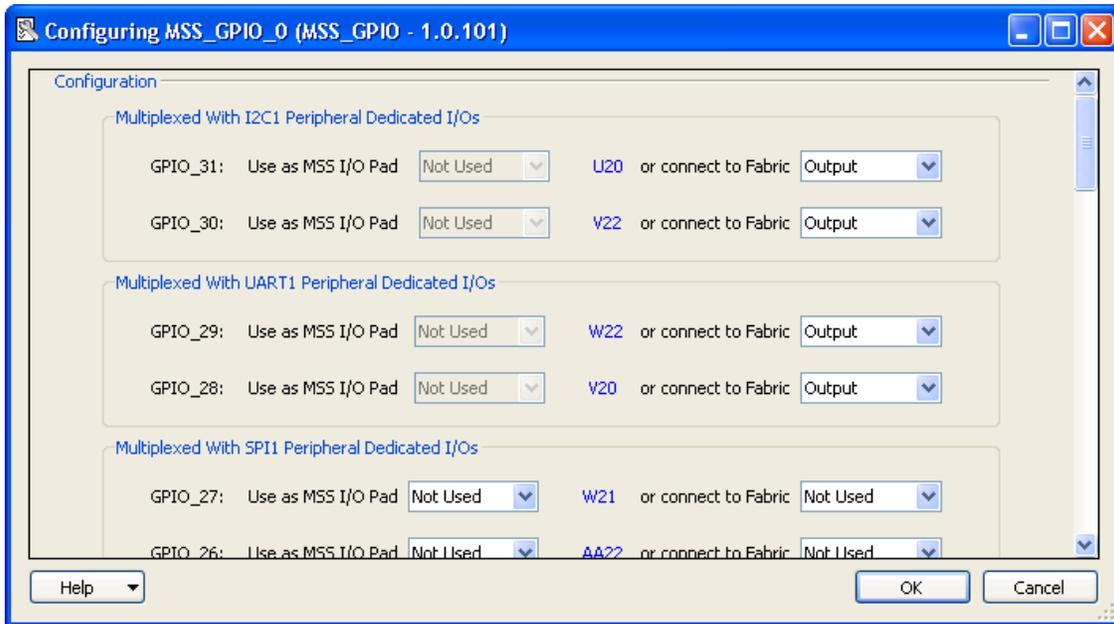

Figure 49 · Configure MSS_GPIO_0
1. Double-click the **GPIO block** in the **MSS component**, configure as shown in Figure 49 , and click **OK**.